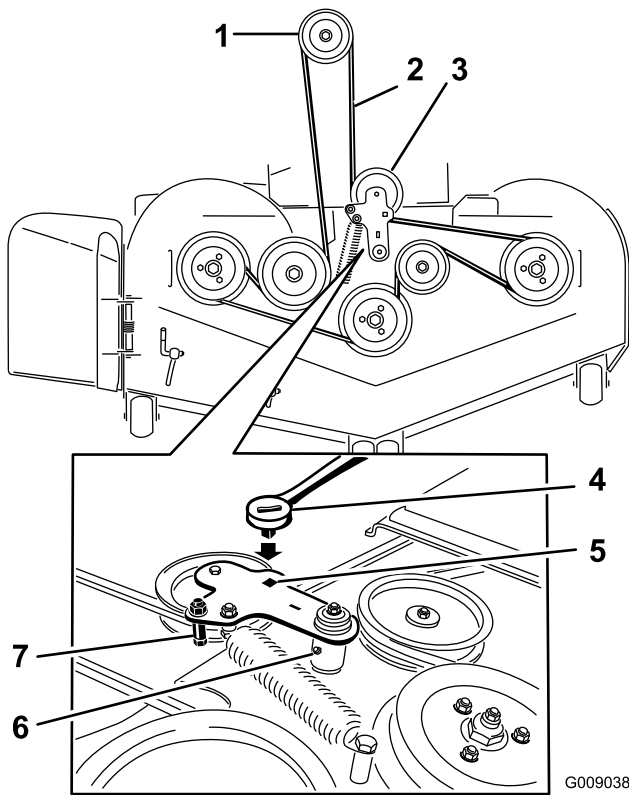

Figure 105
- Lift the floor pan and insert a ratchet into the square hole in the deck idler (Figure 105).
- Rotate the deck idler clockwise and remove the mower belt (Figure 105).